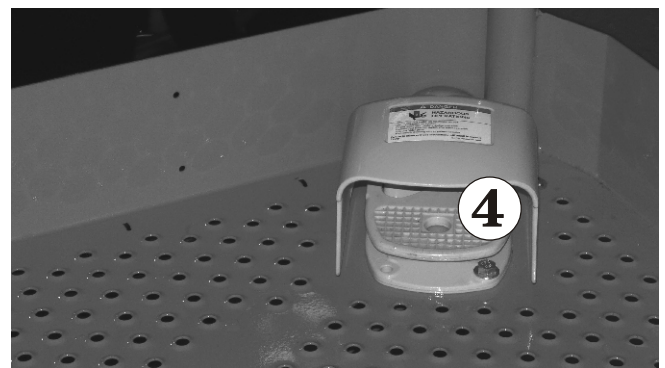

Figure 11.7 - Enable Switch (Foot)
4. Step on the platform foot switch ④ (see Figure 11.7).
5. Operate the Enable switch ⑤ by pressing the switch down and hold it down .
6. Whilst still operating the enable switch, press and hold the **Emergency Lower** switch ⑥ down and the upper boom will begin lowering.
Enable ⑤ or ④ (foot switch - Figure 11.7)